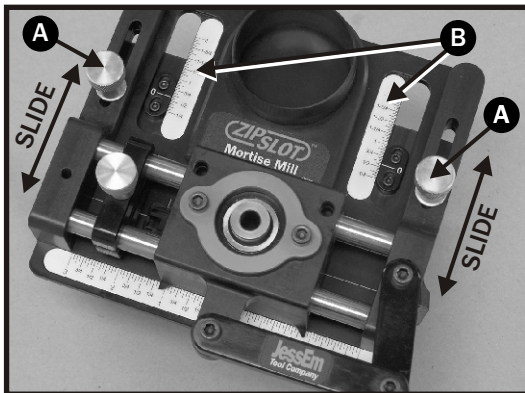

FIG. 4
1. Adjust the carriage plate by loosening the two brass carriage plate adjusting knobs (letter "A" in Fig. 4). Then slide the carriage plate into position while referring to the mortise position scales (letter "B" in Fig. 4).